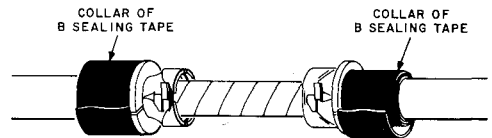

Fig. 15—Forming B Sealing Tape Collar
- 4.05 **Caution:** The B sealing tape and D sealing cords should be kept clean and should not be stretched. Do not handle tape with damp or oily hands. Do not heat B sealing tape or D sealing cord directly in the airflow of the heater or blower. This reduces the adhesion to the cable sheath. If heating is required, place in a warm location prior to use. Build up collars of B sealing tape on the outer jackets adjacent to the sealing washers equal to or slightly larger than the washers. Butt all joints of sealing tape (Fig. 15).